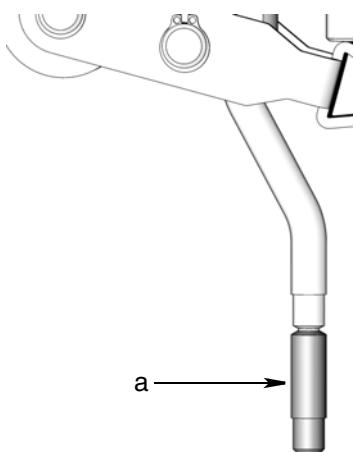

FIG. 2
- a. Check length of suction tube. If it is too long to fit in the reservoir, use a pliers to break off the lower section of the tube (a) (FIG. 2).